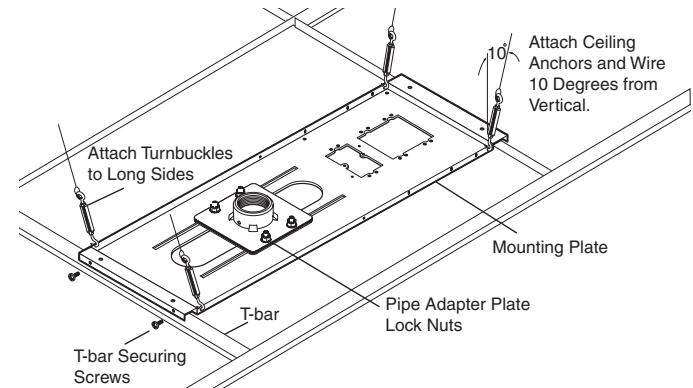

Figure 2 — Installing the PCM 240
1. Screw the four T-bar securing screws loosely into the ends of the mounting plate (see figure 2).
13. Attach the four turnbuckles to the long sides of the mounting plate, one near each corner (see figure 2).
These holes should not be drilled directly above where the turnbuckles attach, but offset about 10 degrees out from vertical (see figure 2).
The eye screws should not be screwed in directly above where the turnbuckles attach but offset about 10 degrees out from vertical (see figure 2).